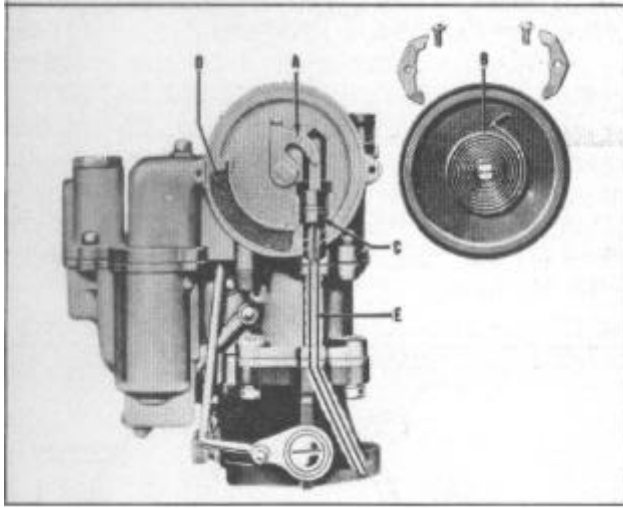

FIGURE 5
Climatic Control is controlled by a thermostatic coil (B) Figure 5 which holds the choke